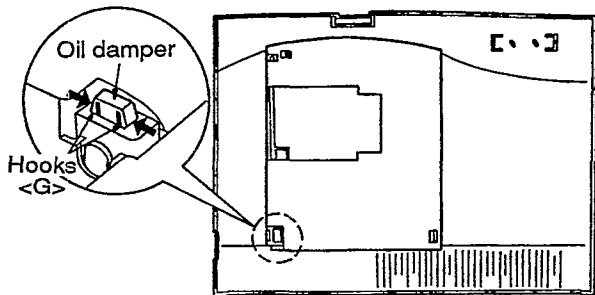

Figure 8
(1) After removing the top case, unlock two hooks <G> as shown in Figure 8.
(2) Remove the CD Panel unit.